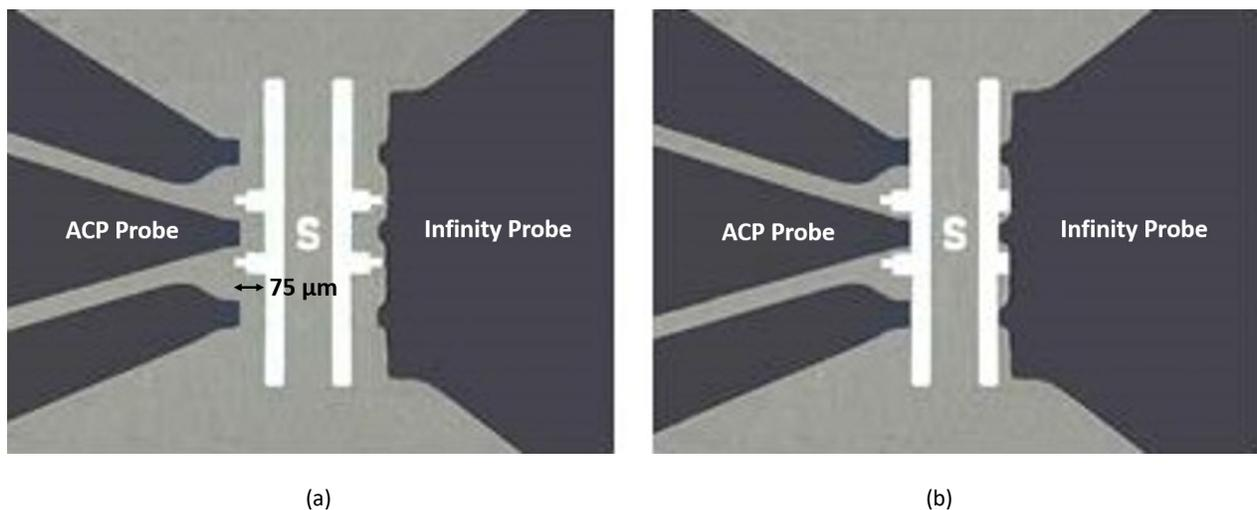

Fig. 6.1. (a) Initial and (b) final contact positions of the probe tips on the alignment marker of the ISS.
- 6.5 Adjust the probe positioners to align the probe tips on the alignment marker [Fig. 6.1(a)].
- 6.6 Gently lower the probes to contact the alignment marker, then add sufficient overtravel (downward adjustment of the z-micrometer after initial touchdown) to allow the tips to skate horizontally 75–125 μm for ACP probes, 50–75 μm for Infinity probes, or another amount specified by the probe manufacturer [Fig. 6.1(b)]. The same amount of overtravel and skate will be used in most measurements.
8.13 Finetune the probe positioners to contact the DUT with the amount of skate set in Sec. 6 (Fig. 6.1).